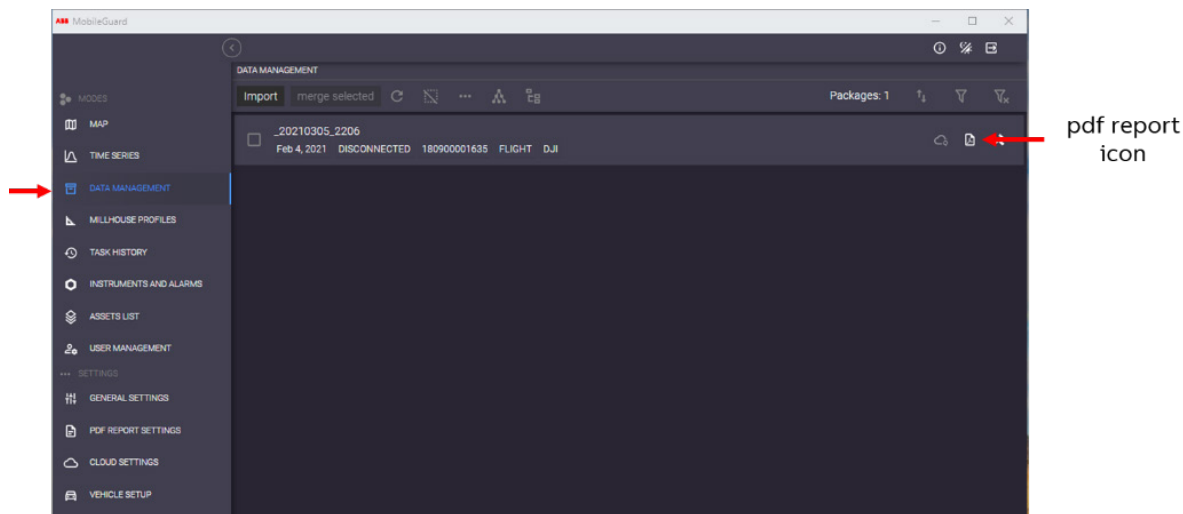

Figure 135 View Archival Reports
- 5 The resulting archive filename will have a name like `_2022305_2247.flight`. Extract this file using a file extractor, such as 7-Zip. Archived reports can also be reviewed directly with the MobileGuard™ software by navigating back to the *Data Management* screen and clicking the desired **pdf report** icon (Figure 135).